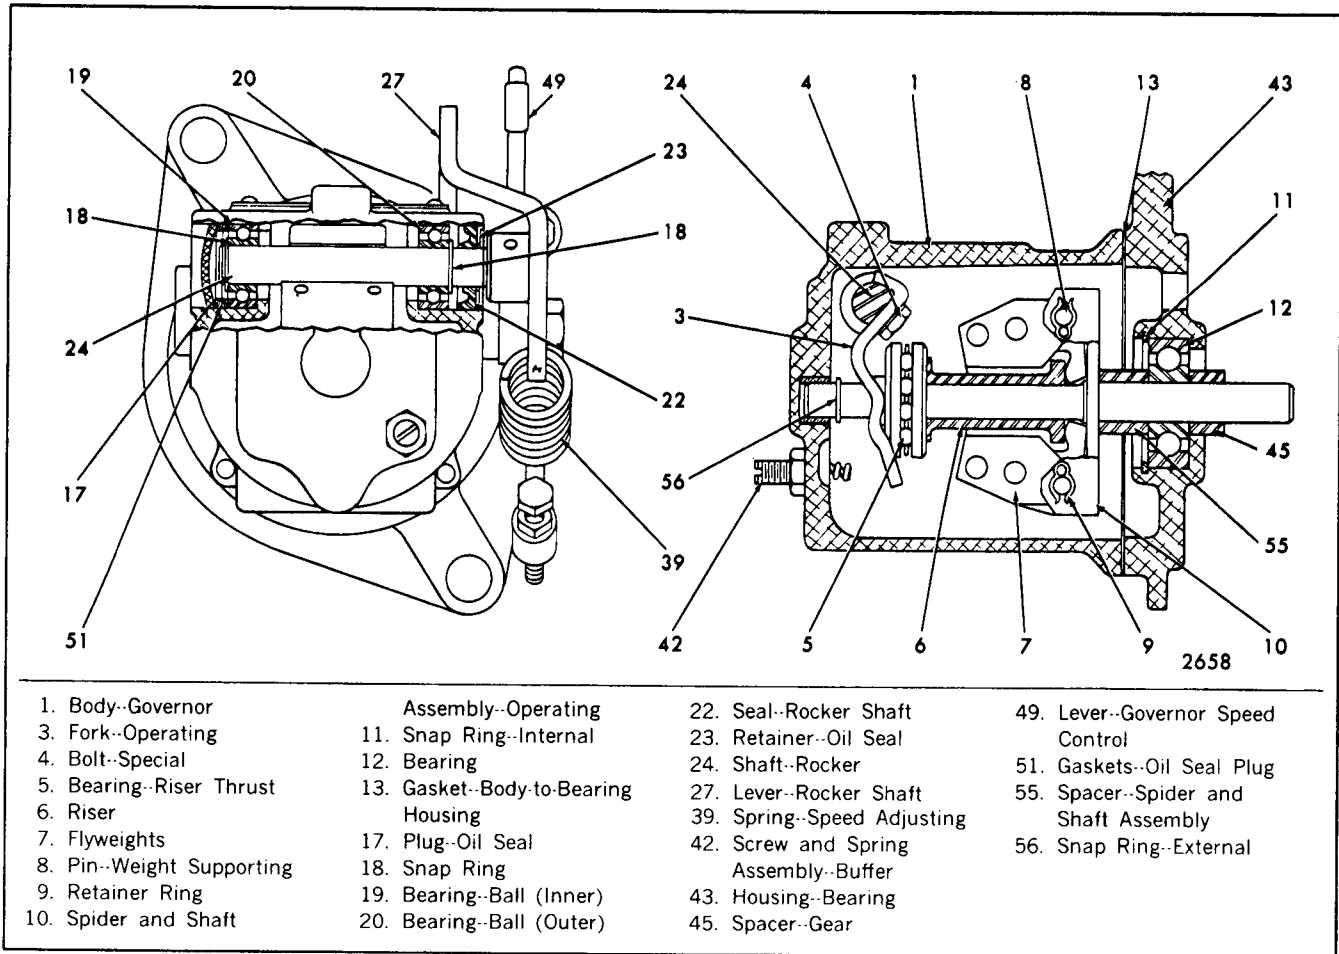

Fig. 2 - Cross-Section of Governor
10. Place a new gasket on the governor housing, then install the governor cover and lever assembly. Be sure the pin in the throttle shaft enters the slot in the differential lever. Secure the cover to the governor with four screws and lock washers. If a torsion-type stop lever spring is used, a special cover screw is used to hold the spring in place (Fig. 2). If a long coil spring is used, the spring retaining bracket is held in place by one of the standard cover retaining screws
The governor flyweights (7), shown in Fig. 2, are mounted on the spider and shaft assembly (10) and driven by the governor drive gear (46). This gear is pressed on the spider and shaft assembly and is driven by the engine gear train. A shoulder on the flyweights bears against the riser (6), that transmits the motion of the flyweights through the riser thrust bearing (5) to the operating fork (3). The operating fork is attached to the rocker shaft (24), that rides in ball bearings (19 and 20), and transmits the motion of the flyweights to the rocker shaft lever (27). The rocker shaft lever is pinned to the rocker shaft. The rocker shaft lever is connected to the speed adjusting spring (39) that is, in turn, connected to the governor speed control lever (49). The governor speed control lever is bolted to the governor and is controlled by the engine operator when establishing the desired speed of the unit. The idle (36) and maximum (37) speed adjusting screws limit the travel of the governor speed control lever and thus the minimum and maximum engine speed settings. The linkage operating the injector fuel racks is attached to the rocker shaft lever. Movement of the rocker shaft lever increases or decreases the amount of
Inspect for worn or damaged parts that can be repaired or replaced without complete disassembly. Refer to Fig. 2 and 3 and disassemble the governor as follows: